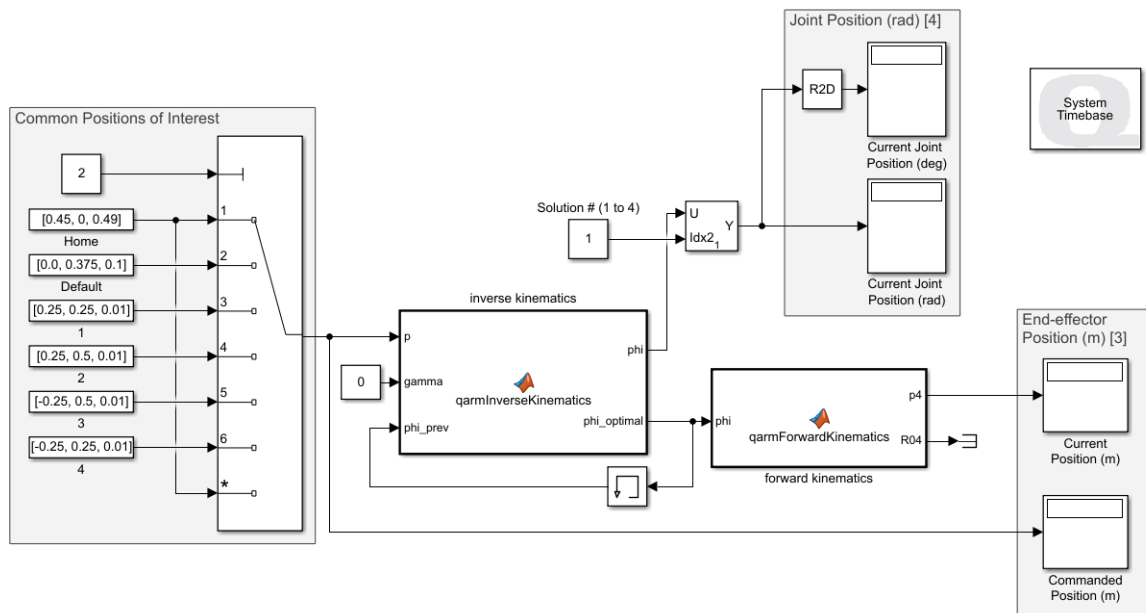

Figure 2.1: Simulink model that implements the QArm inverse kinematics
1. Open the Simulink model InverseKinematics.slx (Figure 2.1). You will use the model to implement the inverse kinematics of the Quanser QArm manipulator. When implemented correctly, the inverse kinematics calculate four sets of possible, but not always valid, static joint configurations for a given end-effector position.